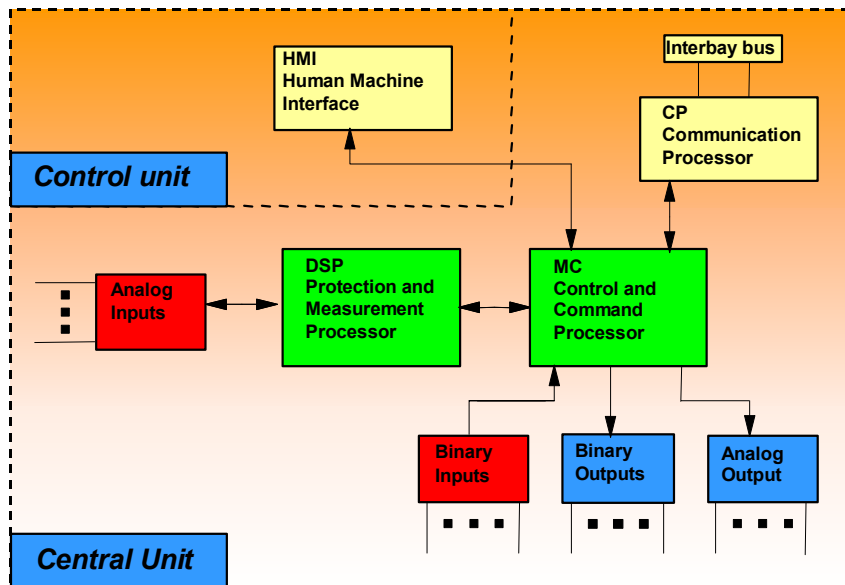

Figure 3: REF542plus Block diagram
The REF542plus is based on a real-time microprocessor system. The measurement and protection functions are executed by a **Digital Signal Processor (DSP)**, while a **Micro Controller (MC)** is executing the control functions. Due to this task separation there is no impact between the start and the trip behavior of the implemented protection scheme, should the control scheme be modified. The **Communication Processor (CP)** is needed for connection to a station automation system. A block diagram of the REF542plus is shown in figure 3.
REF542plus, as shown in figure 3, consists of two parts, a Central Unit and a separate **H**uman **M**achine **I**nterface (HMI). The Central Unit contains the power supply, processor and analog and binary Input and Output (I/O) modules, as well as optional modules for supplementary functions.